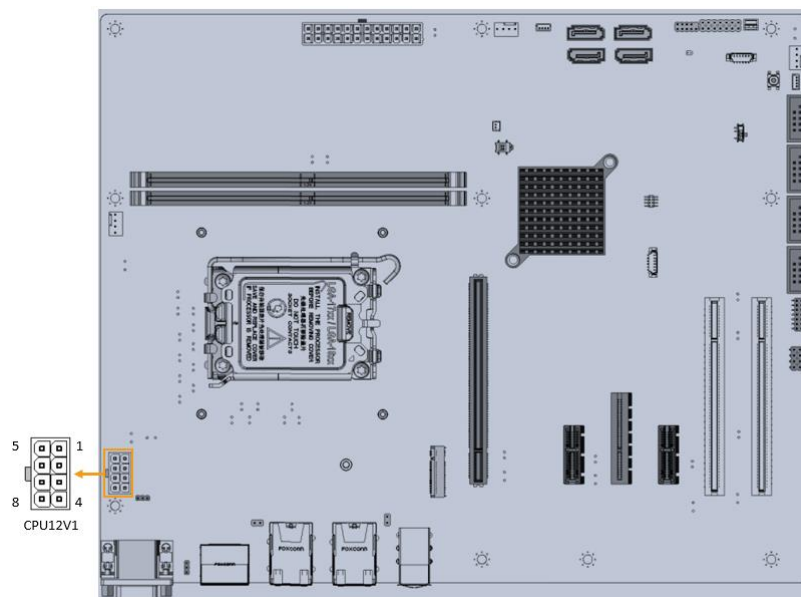

Figure 3-2: ATX CPU 12V power connector location
- CN Location:** See **Figure 3-2**.